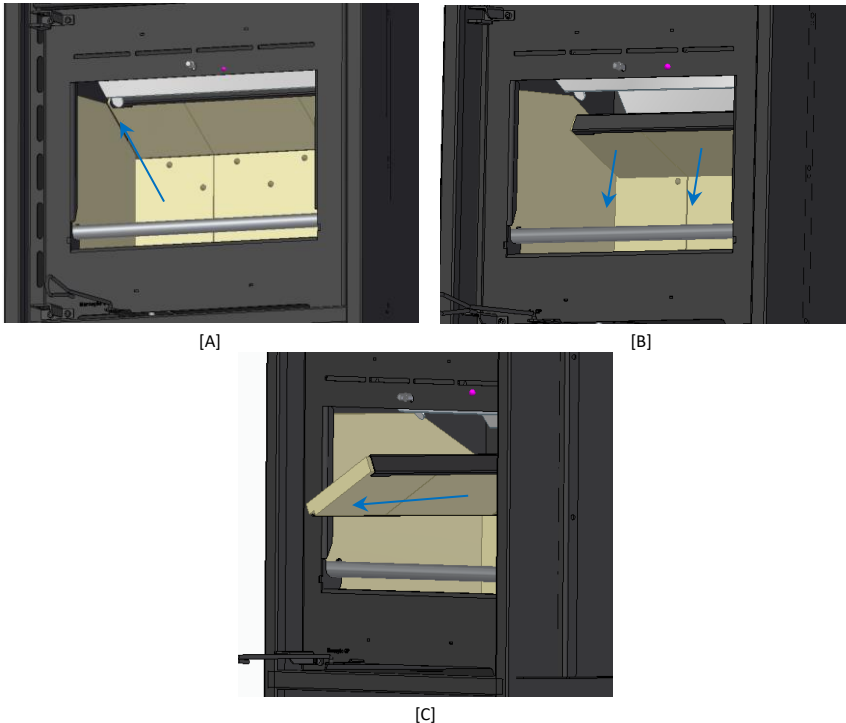

Figure 56 - Sequence that must be followed to remove the fume baffle
1. Hold the fume baffle using both hands, one placed under and the other above the plate (see Figure 56-[A]);
2. Lift the baffle a little so that it is free from the upper baffle support. After it is free from the supports, you should remove the baffle by moving it downward, Figure 56 [A] and [B];
3. With the gap created previously, rotate the baffle relative to the side and in the downward direction, Figure 56 [C], and remove it through the door;